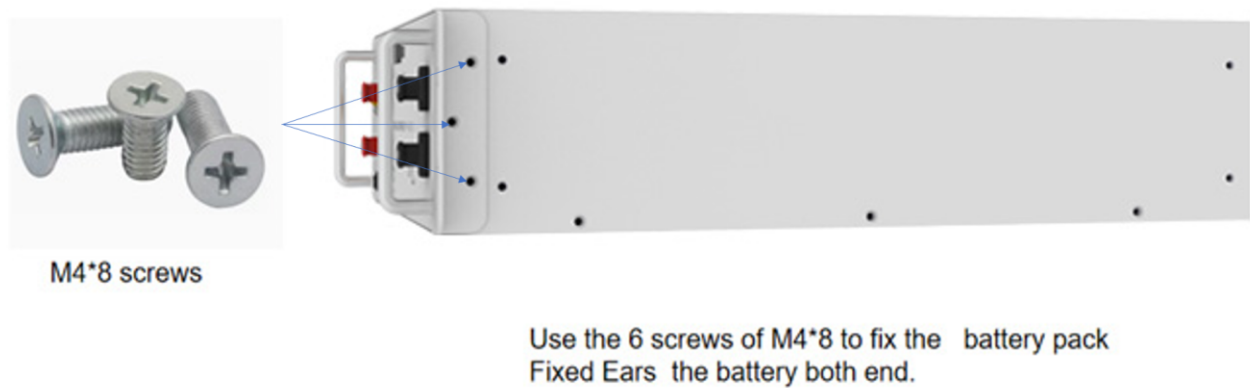

Figure 4-2
a) Use the 6 screws of M4*8 to fix the battery pack Fixed Ears the both sides battery, as show in Figure 4-2.